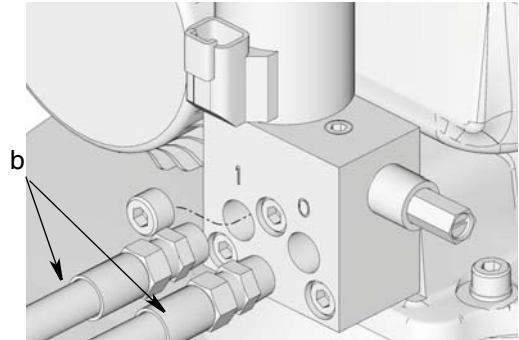

FIG. 3
4. Remove lubrication lines (b) to vent valve pump outlet port marked "0" and from the inlet port marked "1" (FIG. 3).